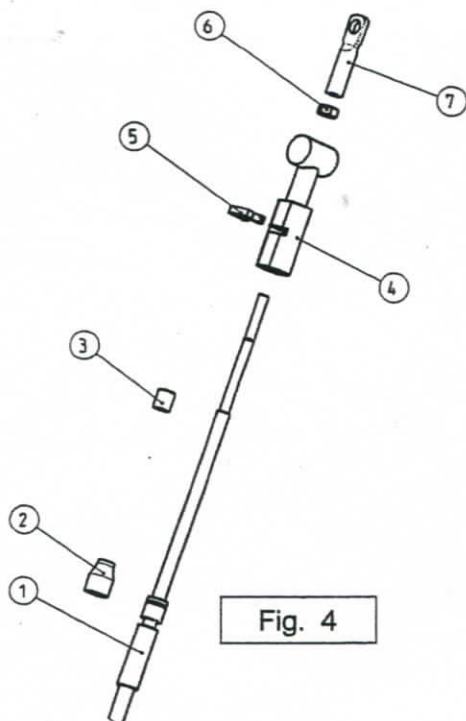

Fig. 4
1. **Use of F02 - F08 universal cables (see Fig. 4):** Remove the protection cover (3) and the sealing (2) from the cable. Insert the cable connector (4) to the limit stop and insert the cable clamp block (5) in its slot. Screw the nut (6) and the cable end (7) on the threaded cable rod.
Before use, check if the installation has been performed correctly, by moving the lever forward and backward, and verify that cables allow all the available stroke. In case of use of **F02** or **F08** universal cables, adjust the stroke by screwing or unscrewing the cable end (7) (see Fig. 4).